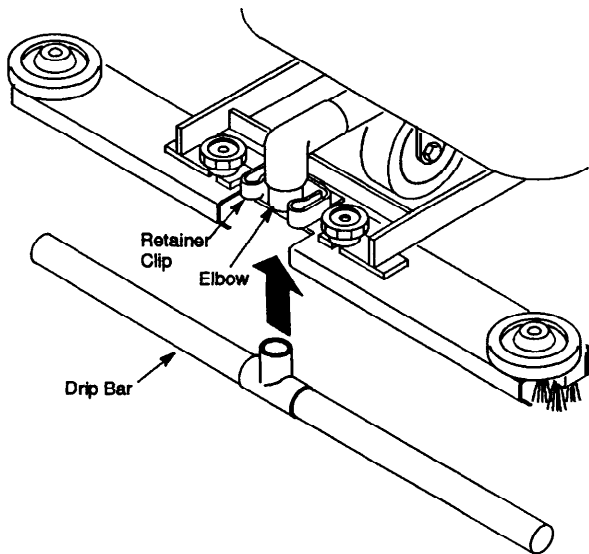

FIG. 6.
- Position drip bar into dispenser assembly and snap bar onto retainer clip. Then connect elbow on clear hose to drip bar. (Figure 6)